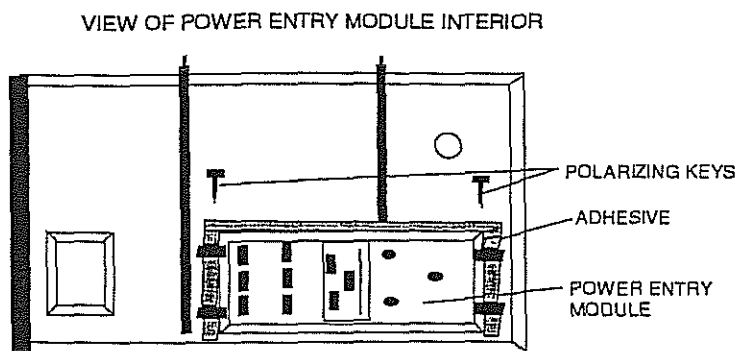

Figure 1
- b) Remove the four screws (60) holding the transformer down.
- a) Remove the four wires from the mains ac power switch (65). **IMPORTANT - NOTE THEIR POSITIONS FOR REASSEMBLY!**
- c) Insert new power entry module, P/N 0012-00-0543-02, insert polarizing keys, P/N 0131-02-1001, apply 3M adhesive #3748; Datascope P/N 0530-00-0023, along three sides of the power module. See figure 1.